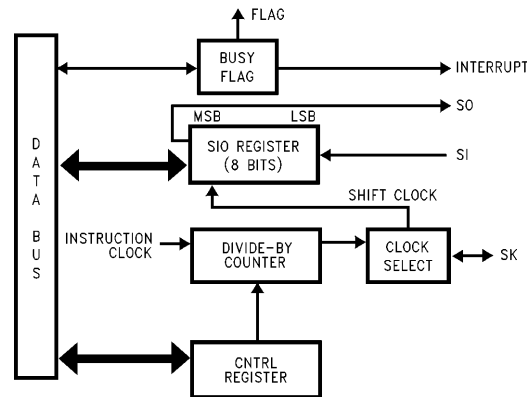

FIGURE 13. MICROWIRE/PLUS Block Diagram
ers, E2PROMs etc.) and with other microcontrollers which support the MICROWIRE interface. It consists of an 8-bit serial shift register (SIO) with serial data input (SI), serial data output (SO) and serial shift clock (SK). *Figure 13* shows a block diagram of the MICROWIRE/PLUS logic.